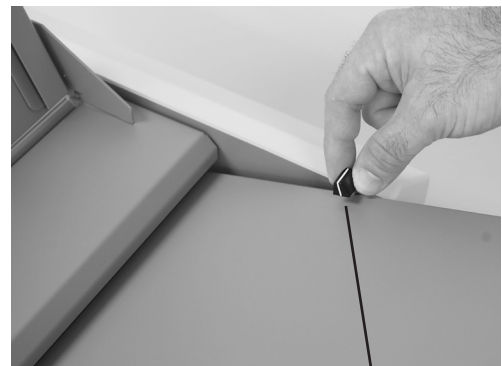

Fig. 2
2. Lock the fold table into position (Fig. 2)